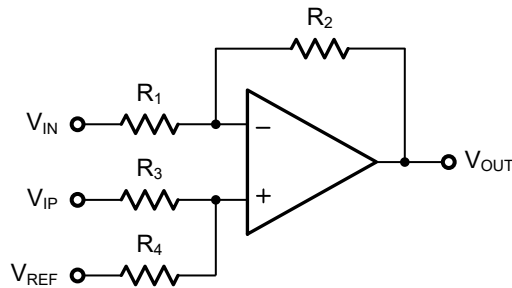
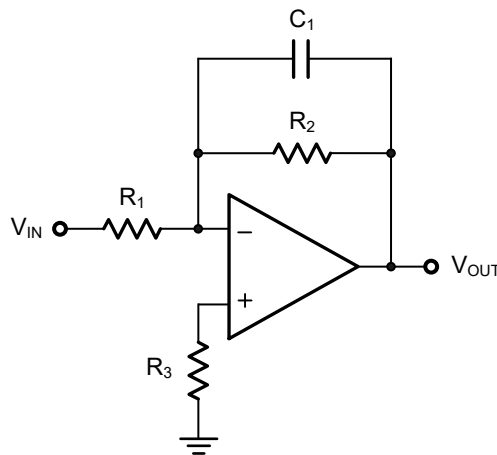

Figure 4-1 Differential Amplifier
Figure 4-2 Low Pass Active Filter
The SNA8331Q is optimized for bandwidth and speed, not for driving capacitive loads. Output capacitance will create a pole in the amplifier's feedback path, leading to excessive peaking and potential oscillation. If dealing with load capacitance is a requirement of the application, the two strategies to consider are (1) using a small resistor in series with the amplifier's output and the load capacitance and (2) reducing the bandwidth of the amplifier's feedback loop by increasing the overall noise gain. Figure 4-1 shows a unity gain follower using the series resistor strategy. The resistor isolates the output from the capacitance and more importantly, creates a zero in the feedback path that compensates for the pole created by the output capacitance.
The circuit in Figure 4-2 is an improvement to the one in Figure 4-1. R_F provides the DC accuracy by feed-forward the V_{IN} to R_L . C_F and R_{ISO} serve to counteract the loss of phase margin by feeding the high frequency component of the output signal back to the amplifier's inverting input, thereby preserving the phase margin in the overall feedback loop. Capacitive drive can be increased by increasing the value of C_F . This in turn will slow down the pulse response.